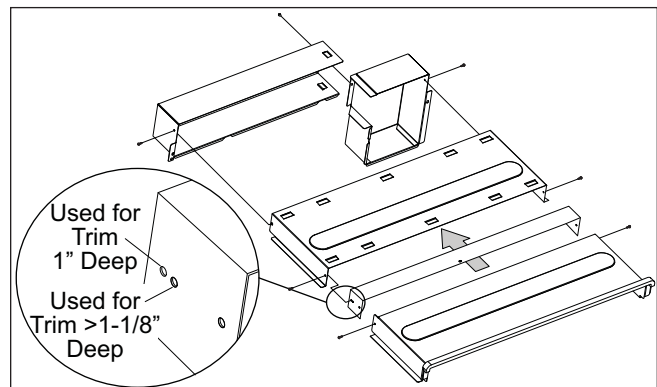

Figure 2. Top Duct Assembly
- B. Assemble top duct. (See Figure 2).